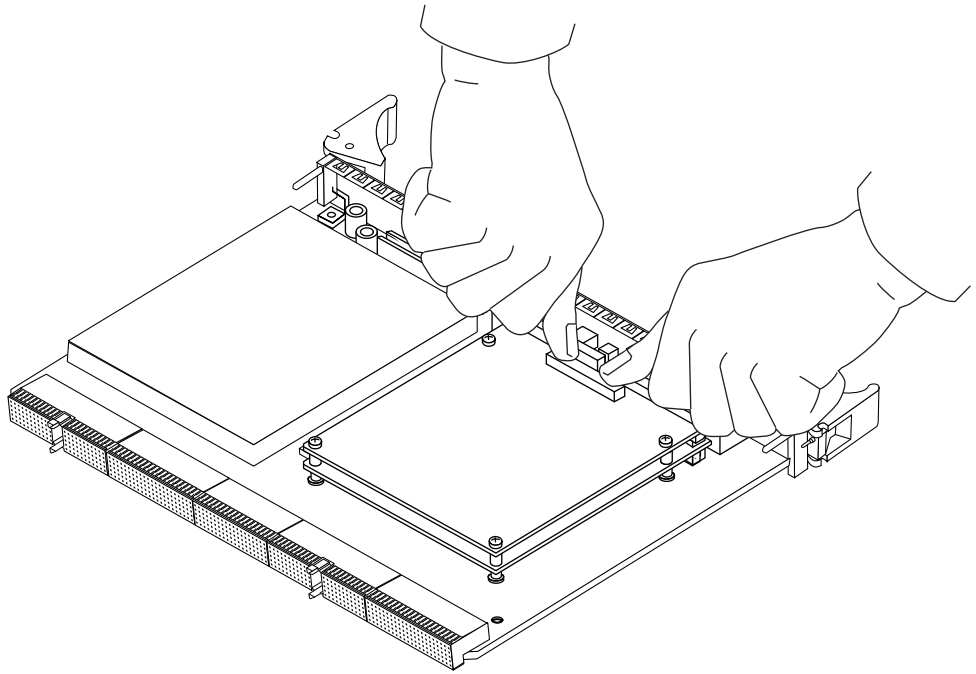

FIGURE E-2 Seating the Memory Module
- 3. Position the memory board A connectors above the memory board connector sockets on the CPU card, align them properly (making sure all the mounting holes are concentric), and press down the connectors using your fingers until they are seated (FIGURE E-2).**
9. Install the mounting screws and washers (FIGURE E-2).